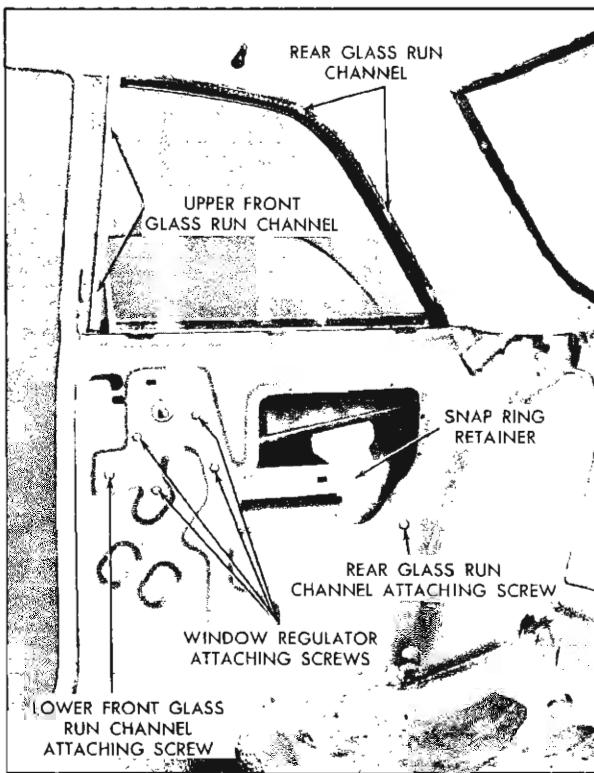

Fig. 4-5 Rear Quarter Hardware Manual—"11" Style
2. Remove snap ring retainer securing regulator lift arm to pivot pin on window lower sash channel (Fig. 4-5).
- a. Operate the window to the "full up" position and loosen the window regulator attaching screws (Fig. 4-5).
a. Loosen rear glass run channel attaching screw (Fig. 4-5).
4. Remove regulator attaching screws (Fig. 4-5) and remove regulator through access hole.
2. Remove lower front glass run channel attaching screw (Fig. 4-5) and remove run channel through access hole.
2. Remove rear glass run channel attaching screw (Fig. 4-5).
2. Disengage window assembly from regulator lift arm by removing snap ring retainer (Fig. 4-5).